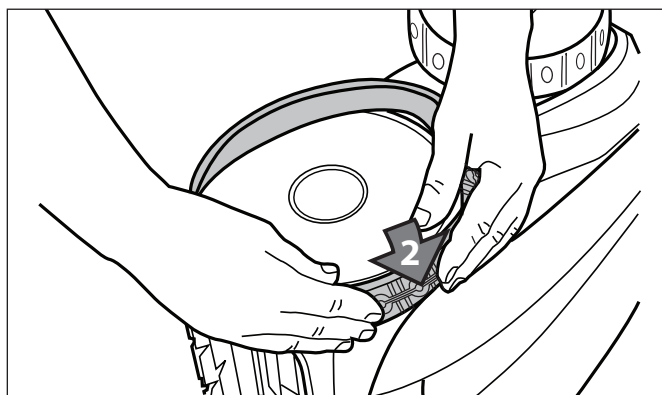

Figure 34. Start on One Side of the Tire
- Push one side of the tire on to the wheel and fit the rib of the tire in the groove of the wheel (Figure 34).